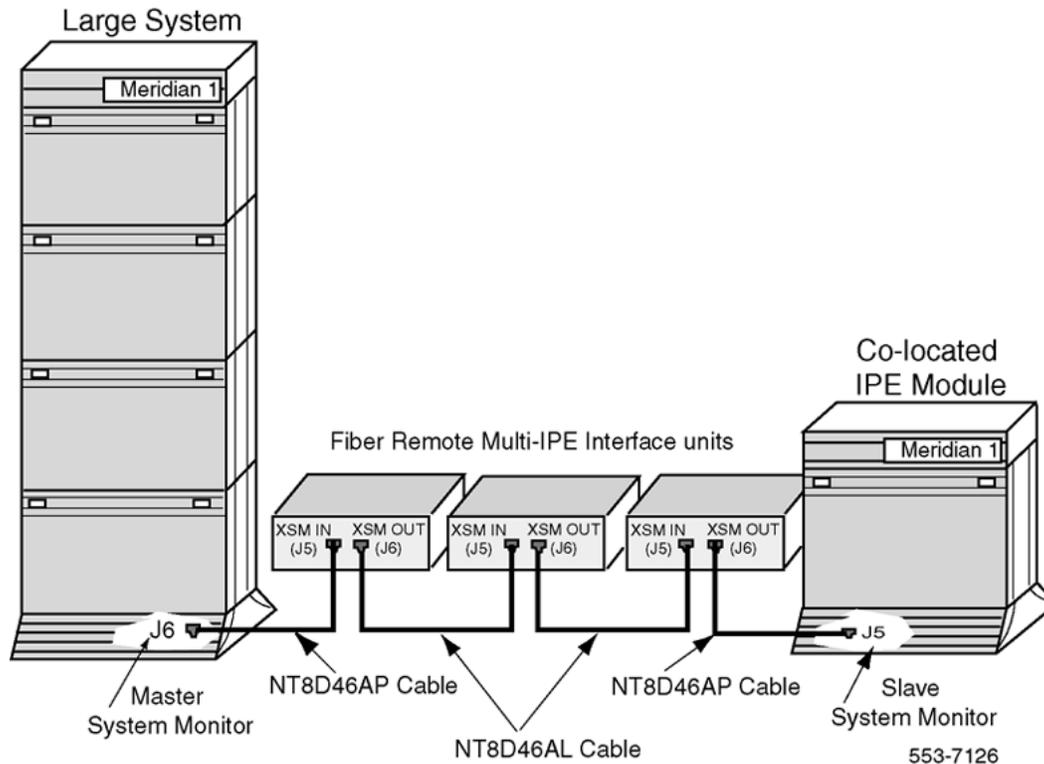

Figure 10: System monitor daisy-chain connections at the local site
To daisy-chain the system monitor cables to multiple Fiber Remote Multi-IPE Interface units, refer to Figure 10: System monitor daisy-chain connections at the local site on page 58 and follow the steps in Connecting multiple Fiber Remote Multi-IPE Interface units to the system monitor on page 57.
8. The XSM OUT (J6) in the last Fiber Remote Multi-IPE Interface unit in the daisy-chain connects to the J5 of the slave system monitor in the co-located IPE Module when this system monitor is outbound from the last Fiber Remote Multi-IPE Interface unit in the chain, as shown in Figure 10: System monitor daisy-chain connections at the local site on page 58.
Figure 10: System monitor daisy-chain connections at the local site on page 58 illustrates the system monitor daisy-chain connections for multiple Fiber Remote Multi-IPE Interface units at the local site.